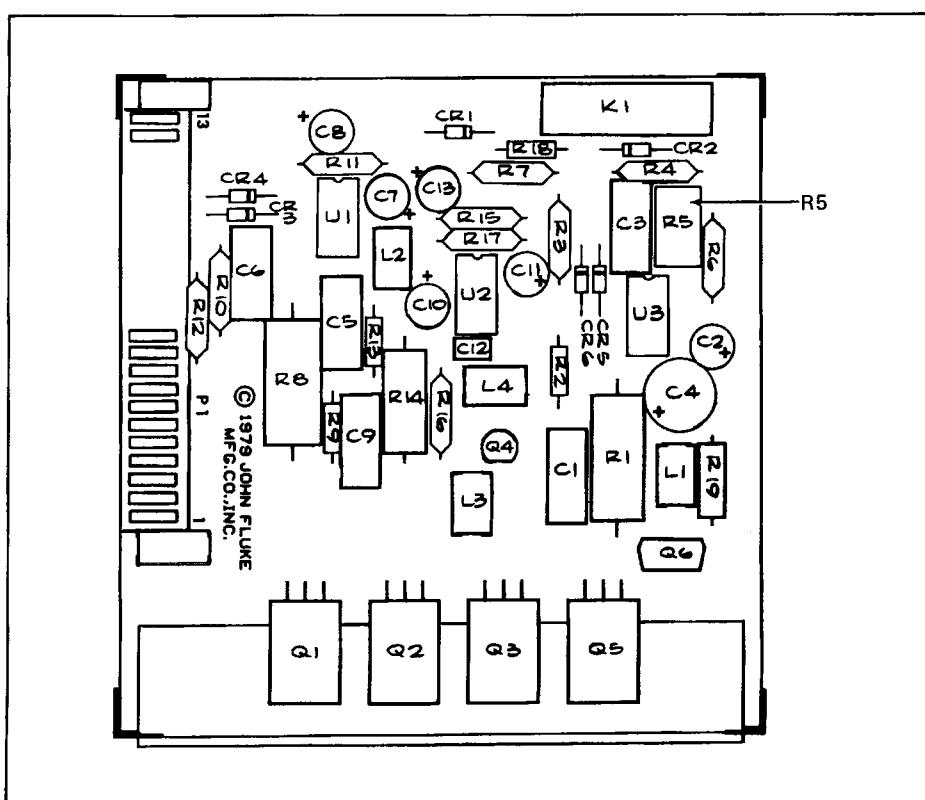

Figure 6-4. A6A4 +12, -12, +24V Series Pass PCB
- Adjust R5 on the A6A4 +24V, +12V Series Pass Regulator PCB (Figure 6-4) so that the DVM display is between 23.997 and 24.003 mV dc.